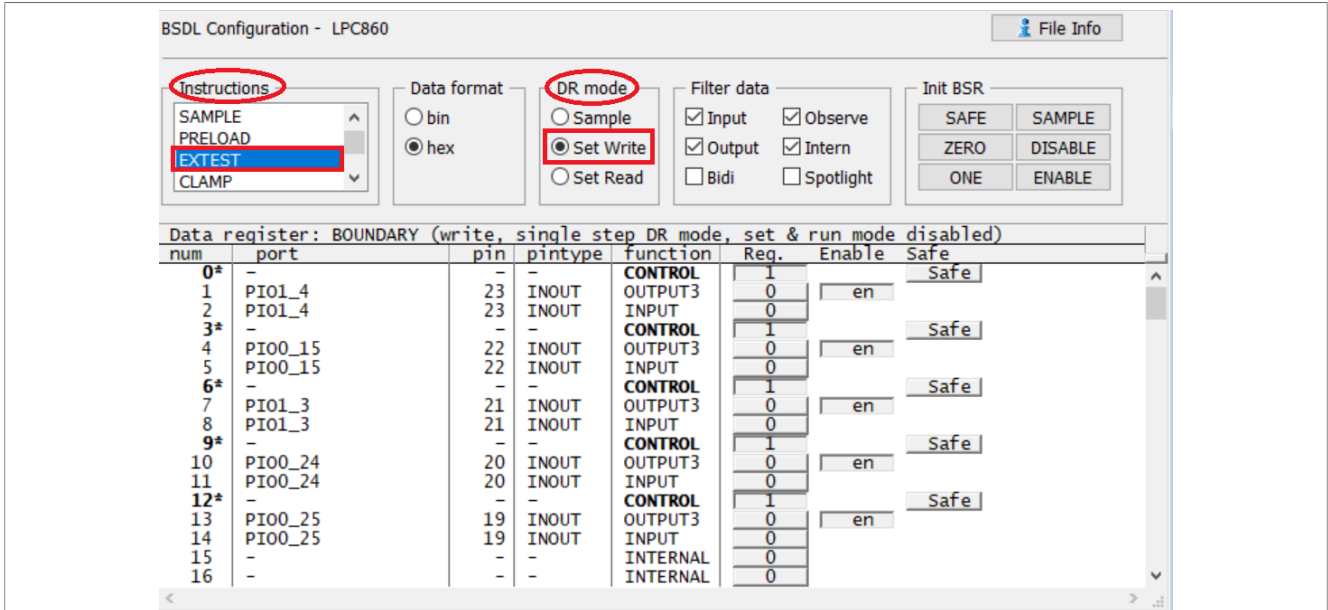

Figure 19. EXTEST settings in BSDL.SET window
9. Enter the `BSDL.SET` command on the **TRACE32** command line, and the **BSDL.SET** window appears. In the Instructions field, click **EXTTEST** and in the **DR mode** field, choose **Set Write**, as shown in Figure 19.